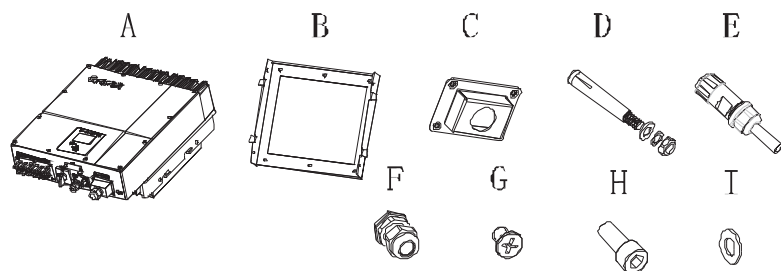

Fig 4.1
- Fix the mounting frame on the wall as the figures shown below, combine as the screws as the Items Fig 4.1 shows (items D)